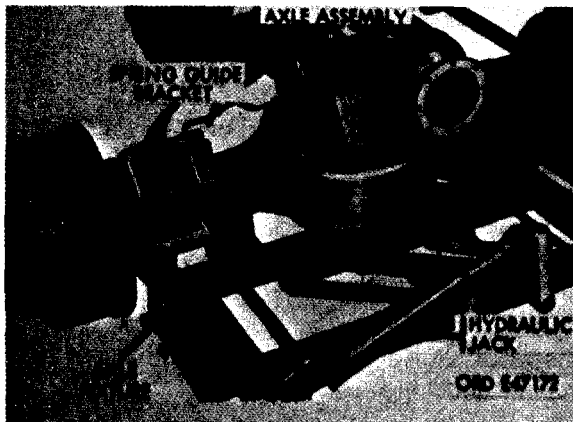

Figure 382. Removing forward - rear axle assembly
- (8) Position hydraulic jack with axle fixture under the forward rear axle. Raise axle on hydraulic jack enough to release front ends of rear springs in spring guide brackets, and roll axle on hydraulic jack toward front of truck.
- (9) Lower hydraulic jack sufficiently to allow removal of axle from under truck. Pull jack with axle assembly sideways and out from under side of truck. Refer to figure 382.